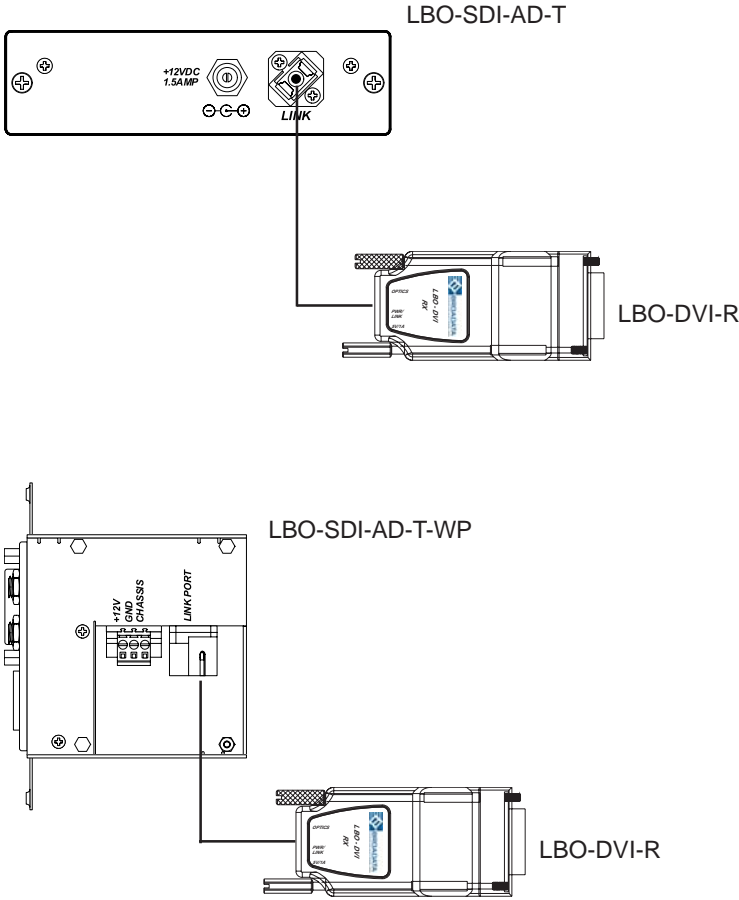

Figure 2-5
3. Connect the fiber from one unit to the other connecting the near end LBO-SDI/DH-T unit's optical port to the far end of the LBO-DVI-R unit's optical RX port as illustrated in Figure 2-5. LBO-SDI/DH-T is compatible with any LBO receivers.
2. Terminated fiber with SC optical connector to be directly plugged into the SC connector port of the LBO-SDI-AD-T-WP units (see Figure 2-5).